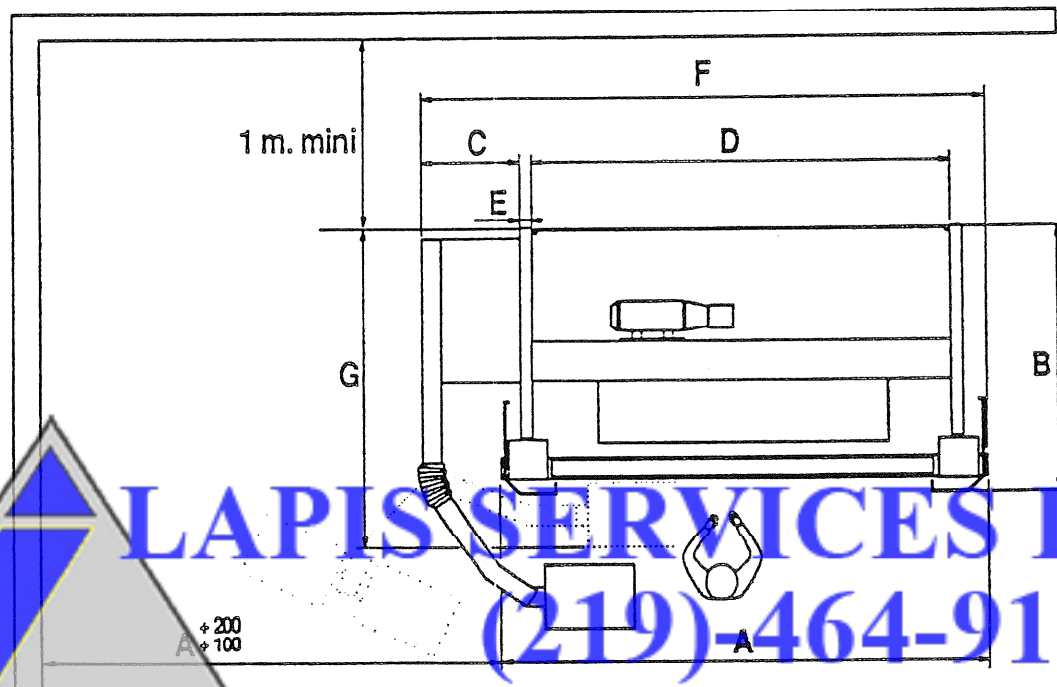

Figure 2.1
- Allow a clearance slightly greater than the maximum bending length on at least one of the two sides. The purpose of this is to allow worksheets that are at least as long as the press to be loaded/unloaded from the side. (*Fig. 2.1; Dimensions A and B, outline of machine in basic version.*)